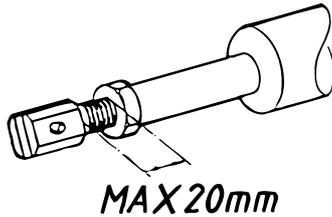

Figure 3.9
- 11 Adjust the pistons so that the Crossboard levelling board is set evenly on the left and right sides. To achieve this, loosen the lock nut and adjust the piston rod. Do not unscrew the rod end more than 20 mm. See "Figure 3.9".